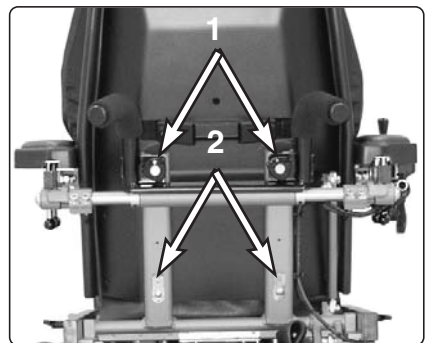

Fig. 30. Detachment of back rest.
1. Loosen the two locking knobs at the rear of the back rest, see Fig. 30:1
2. Open the two snap locks, see Fig. 30:2.